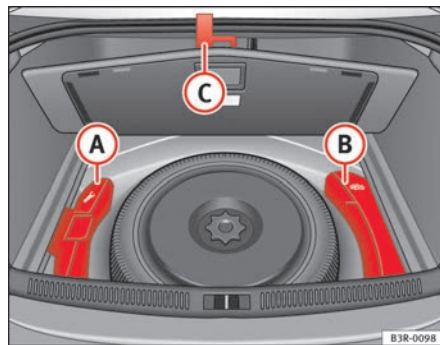

Fig. 175 Toolbox and jack
The tools (A) and jack (B) ⇒ fig. 175 are stored under the floor panel in the luggage compartment.
- Hook the handle (C) onto the luggage compartment weatherstrip.